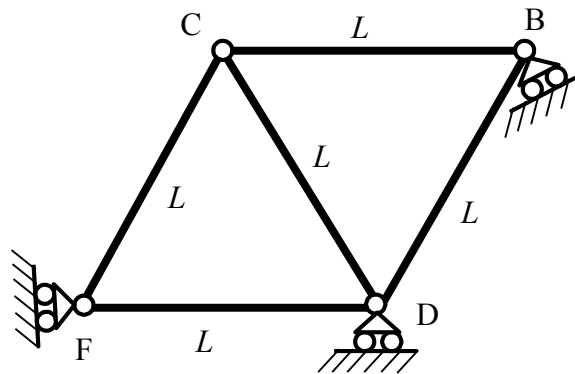

Fig. 7
* 12. Figure 7 shows a truss made from members of equal length L . Joints B, D, and F are constrained to move only in one direction by means of roller supports, shown only schematically in the figure. Thus, joint D can move only along the direction FD, joint F only in a direction perpendicular to FD, and joint B only along the direction FB.